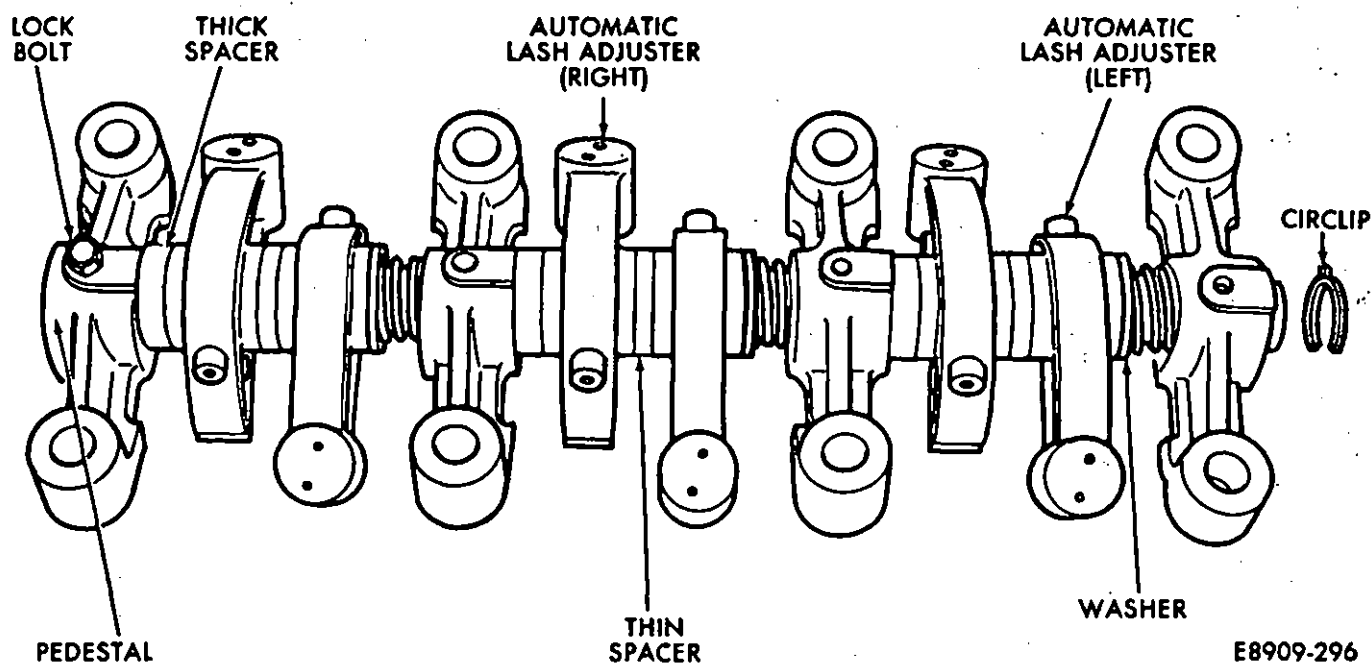

Fig. 7—Rocker Shaft Assembly
(1) When disassembling, arrange the parts in the order that they were removed. Remove the lock bolt and carefully remove in order (Fig. 7):
(2) Remove the circlip from the end of the rocker shaft.